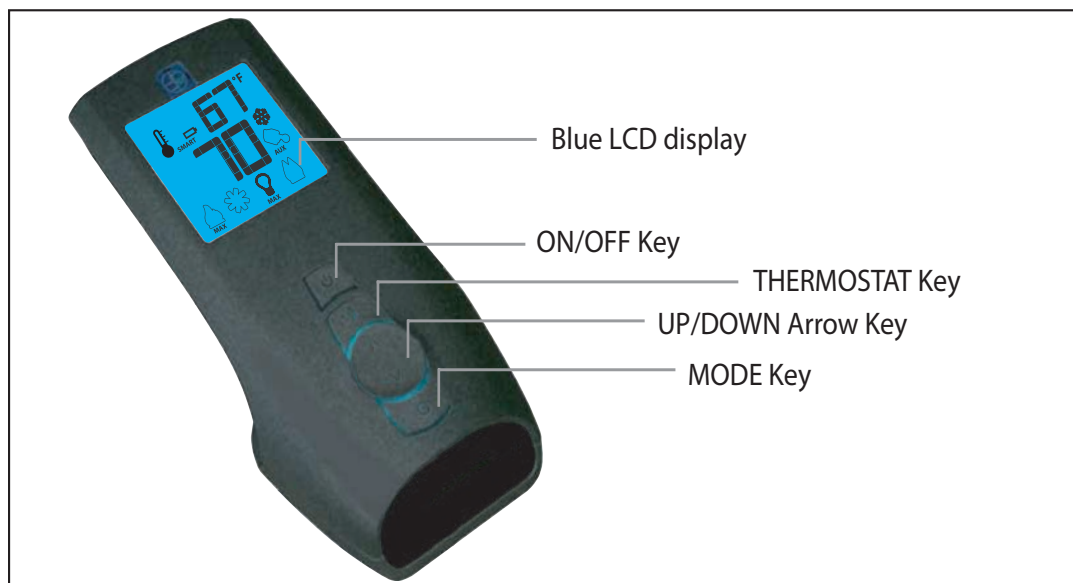
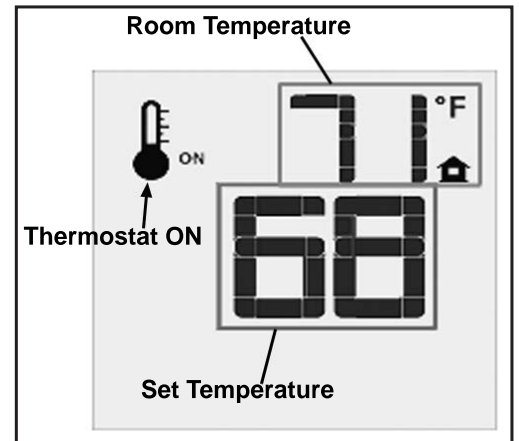
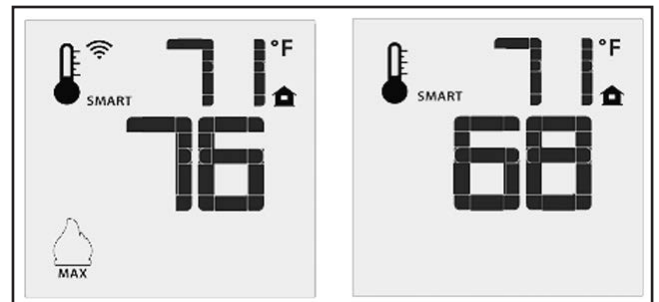
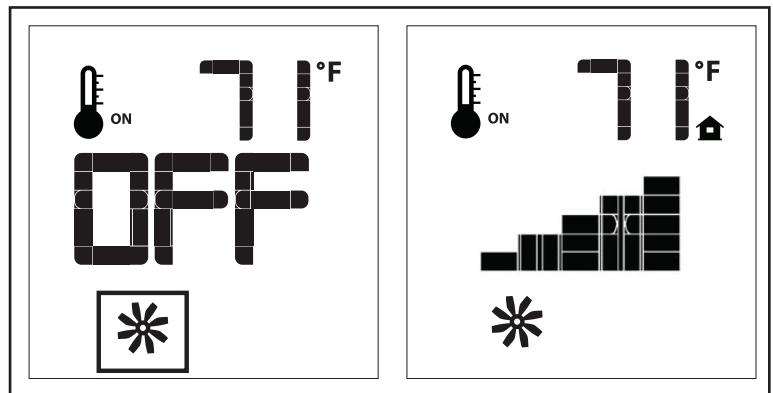

Figure 5: Proflame 2 Transmitter.
Figure 9: Remote Control Displays Set Temperature.
Figure 10: Remote Control's Smart Flame Function.
Figure 12: Fan Control
The Proflame 2 Transmitter is a remote control with a blue backlit lcd display. It uses a streamline design with a simple button layout and informative lcd readout (Figure 5). The Transmitter is powered by three (3) AAA type batteries. A Mode Key is provided to Index between the features and a Thermostat Key is used to turn on/off or index through Thermostat functions (Figure 5 & 6).
Press the ON/OFF Key on the Transmitter. The Transmitter LCD display will only show the room temperature and Icon (see Figure 9). A single “beep” from the IFC confirms reception of the command and both the pilot light (if the unit is not set to continuous pilot) and main burner will turn off.
The Remote Control can operate as a room thermostat. The thermostat can be set to a desired temperature to control the comfort level in a room. To activate this function, press the Thermostat Key (see Figure 5). The LCD display on the Transmitter will change to show that the room thermostat is “ON” and the set temperature is now displayed (see Figure 9). To adjust the set temperature, press the Up or Down Arrow Keys until the desired set temperature is displayed on the LCD screen of the Transmitter.
The Smart Thermostat function adjusts the flame height in accordance to the difference between the set point temperature and the actual room temperatures. As the room temperature gets closer to the set point the Smart Function will modulate the flame down. To activate this function, press the Thermostat Key (Figure 5) until the word “SMART” appears to the right of the temperature bulb graphic (Figure 10). To adjust the set temperature, press the Up or Down Arrow Keys until the desired set temperature is displayed on the LCD screen of the Transmitter.
The E30 comes with a convection fan that can be controlled with the Transmitter. The fan speed can be adjusted through six (6) speeds. To control the fan press the MODE key (Figure 5) to index to the fan control icon (Figure 12). Use the UP/DOWN arrow keys to turn on, off, or adjust the fan speed (Figure 12). A single beep from the IFC will confirm the command has been received.